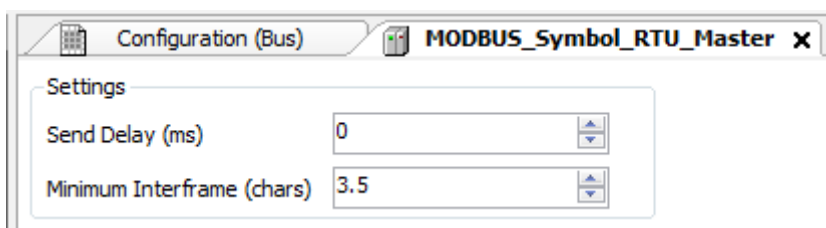

Figure 82: MODBUS RTU Master Configuration Screen
- Configure the general parameters of the MODBUS Master protocol, like: transmission delay times and minimum inter-frame as in Figure 82.